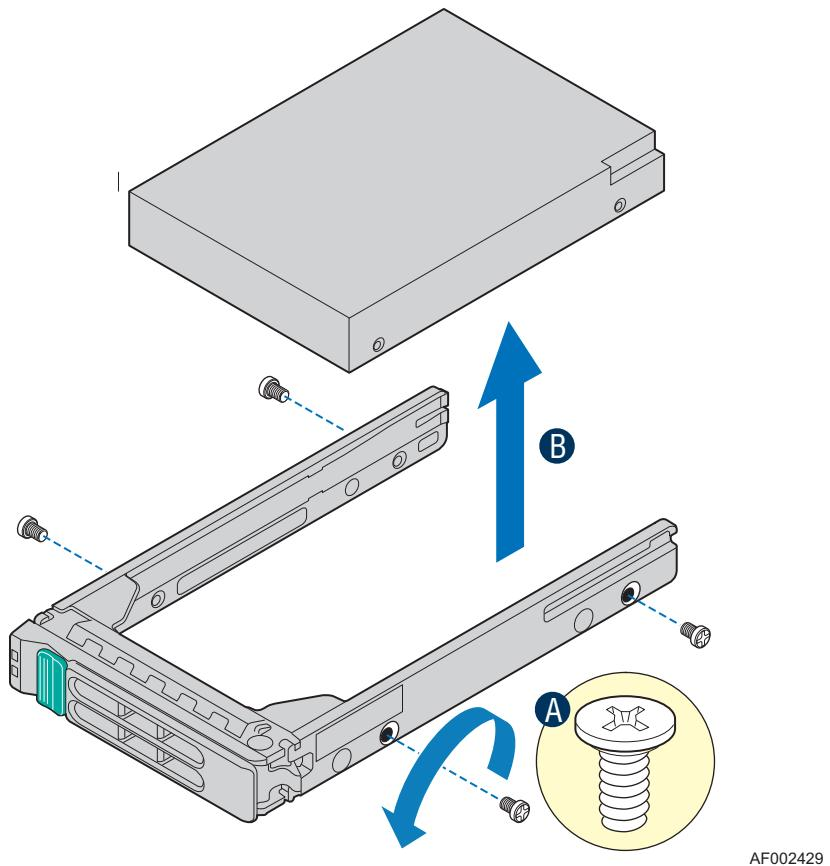

Figure 32. Removing Hard Drive from a Drive Carrier
- With a Phillips* screwdriver, remove the four screws securing the hard drive to the drive carrier (see letter "A" in Figure 32). Lift the hard drive from the carrier (see letter "B" in Figure 32) and store the hard drive in an anti-static container or bag.